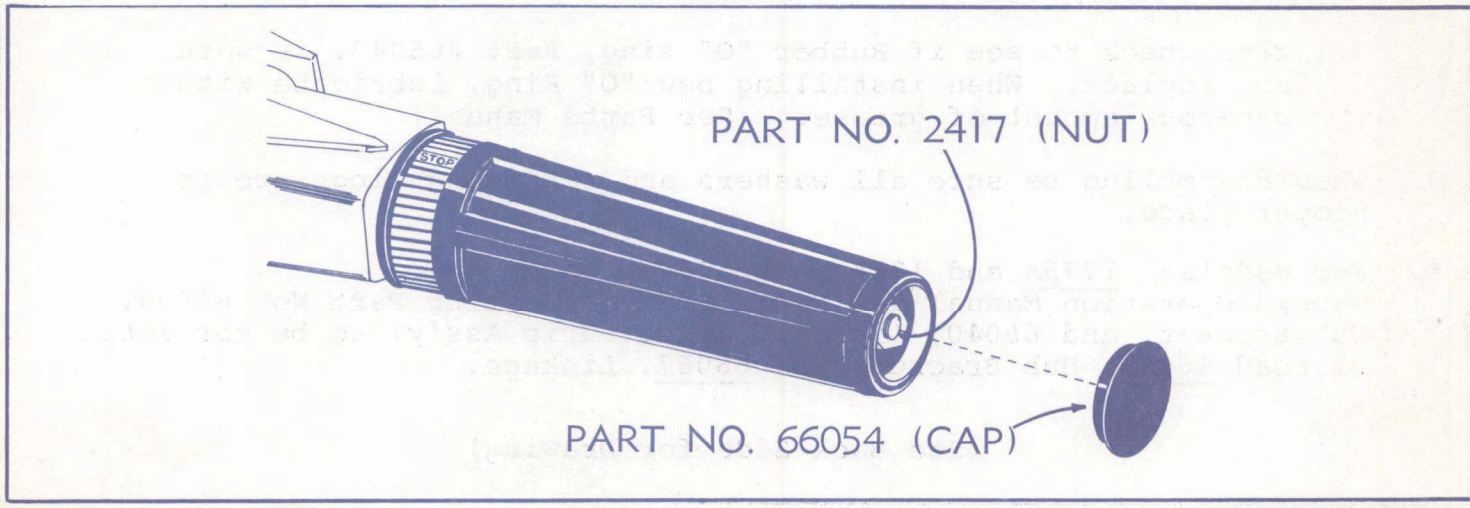

Figure 3
2. If a bind still exists, remove cap, Part #66054, and adjust nut, Part #2417, using a 1/4 inch socket wrench to increase or decrease drag. (See Fig. 3)